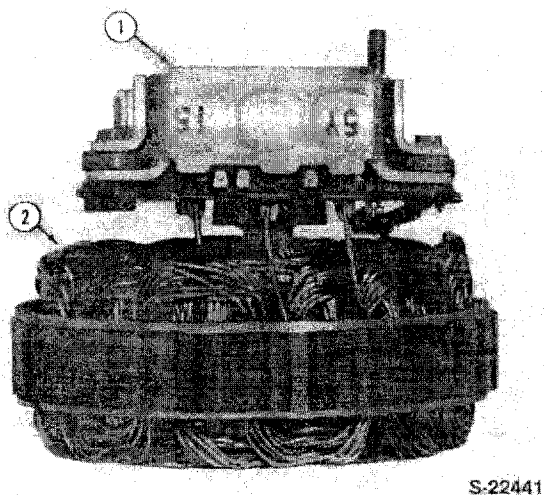

Figure 81
4. Unsolder three stator leads and remove the stator, Figure 81.